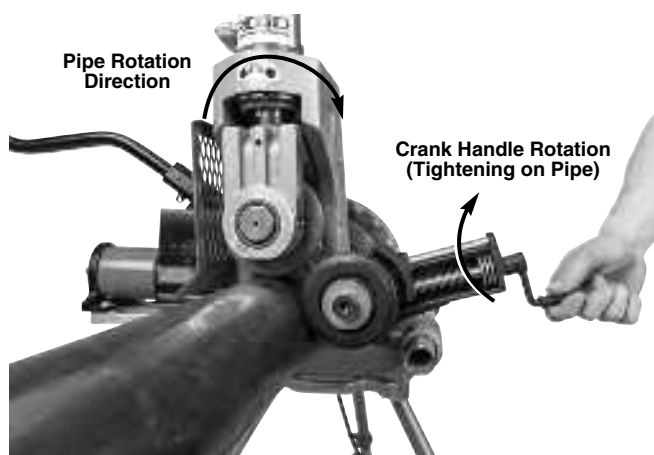

Figure 17 – Stabilizer Positioning
The stabilizer can only be used with the machine REV/O-OFF/FOR switch in the REV position (pipe rotation marked on groover, *Figure 17*). If used with the machine REV/O-OFF/FOR switch in the FOR position, the pipe will spiral/track out of the groove rolls.
3. Rotate the stabilizer crank handle to bring the roller in contact with the pipe. Rotate the crank handle an additional one (1) turn to preload the roller against the pipe (*Figure 17*). Do not reach across the pipe to adjust the stabilizer.